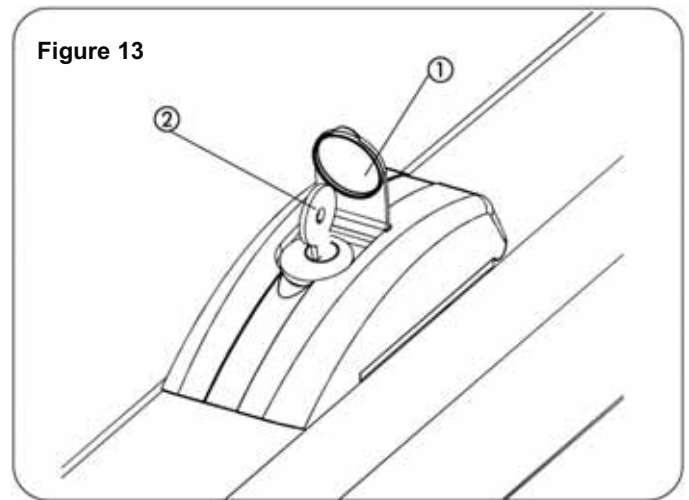

Figure 13
- Lift the protective cap (Fig. 13, Ref.1) and insert the supplied key (Fig. 13, Ref. 2).
- Turn the key 90° clockwise to open the cover.